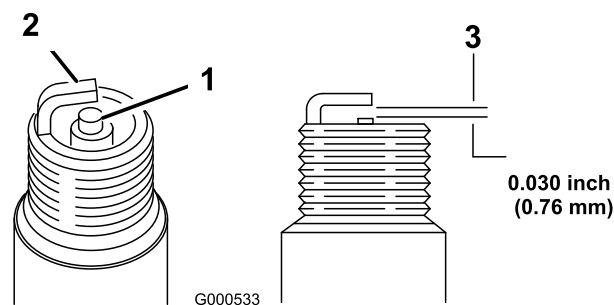

Figure 26
5. Set the gap on the plug to 0.030 in. (0.76 mm) (Figure 26).